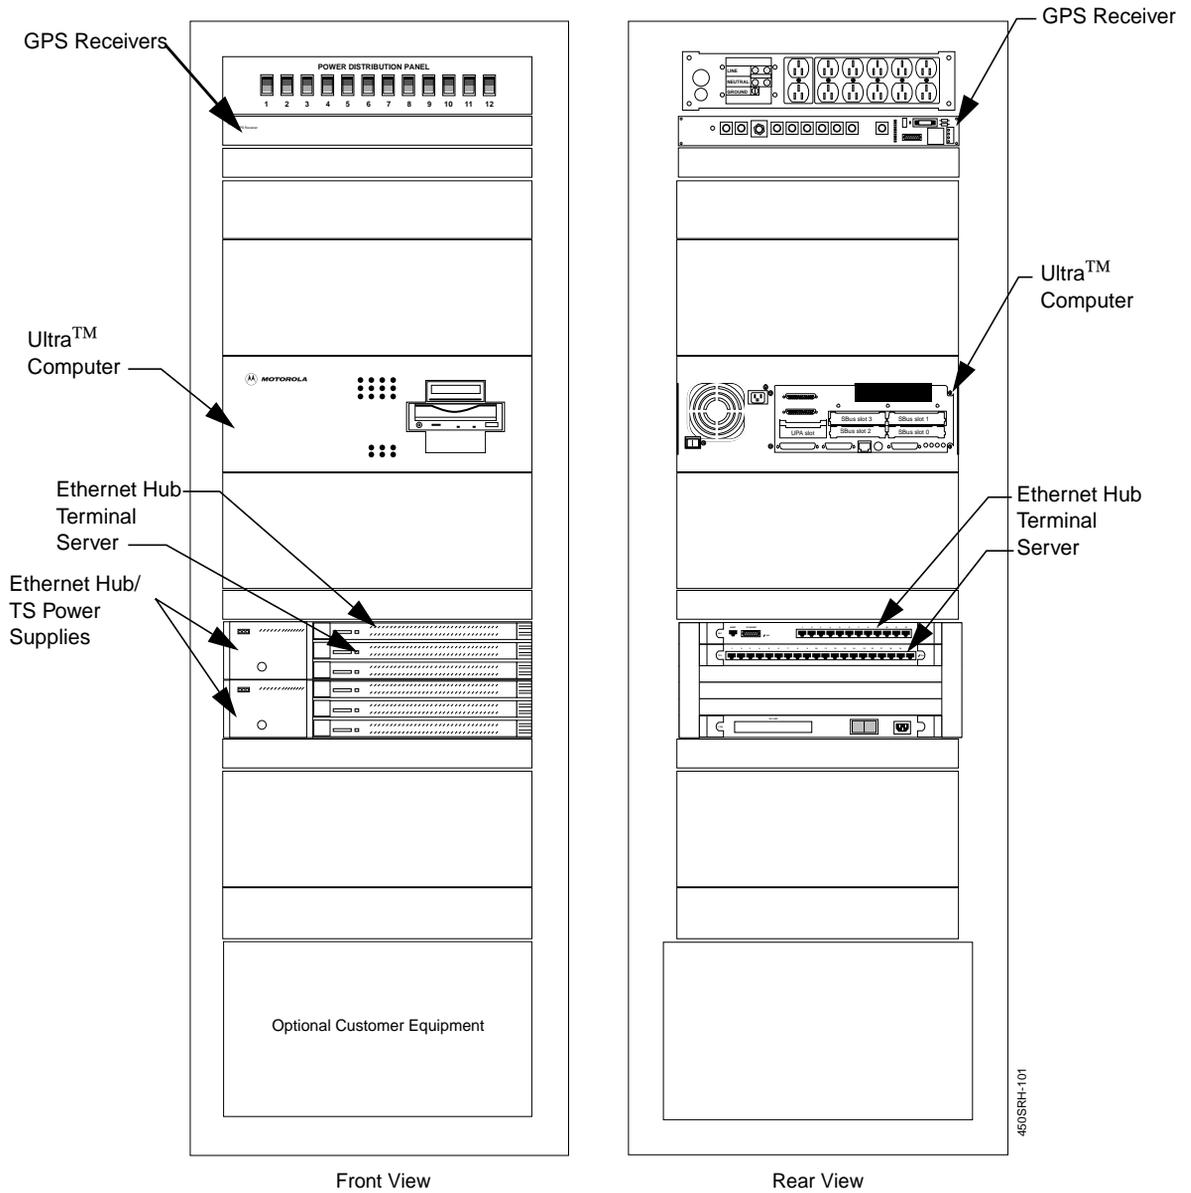
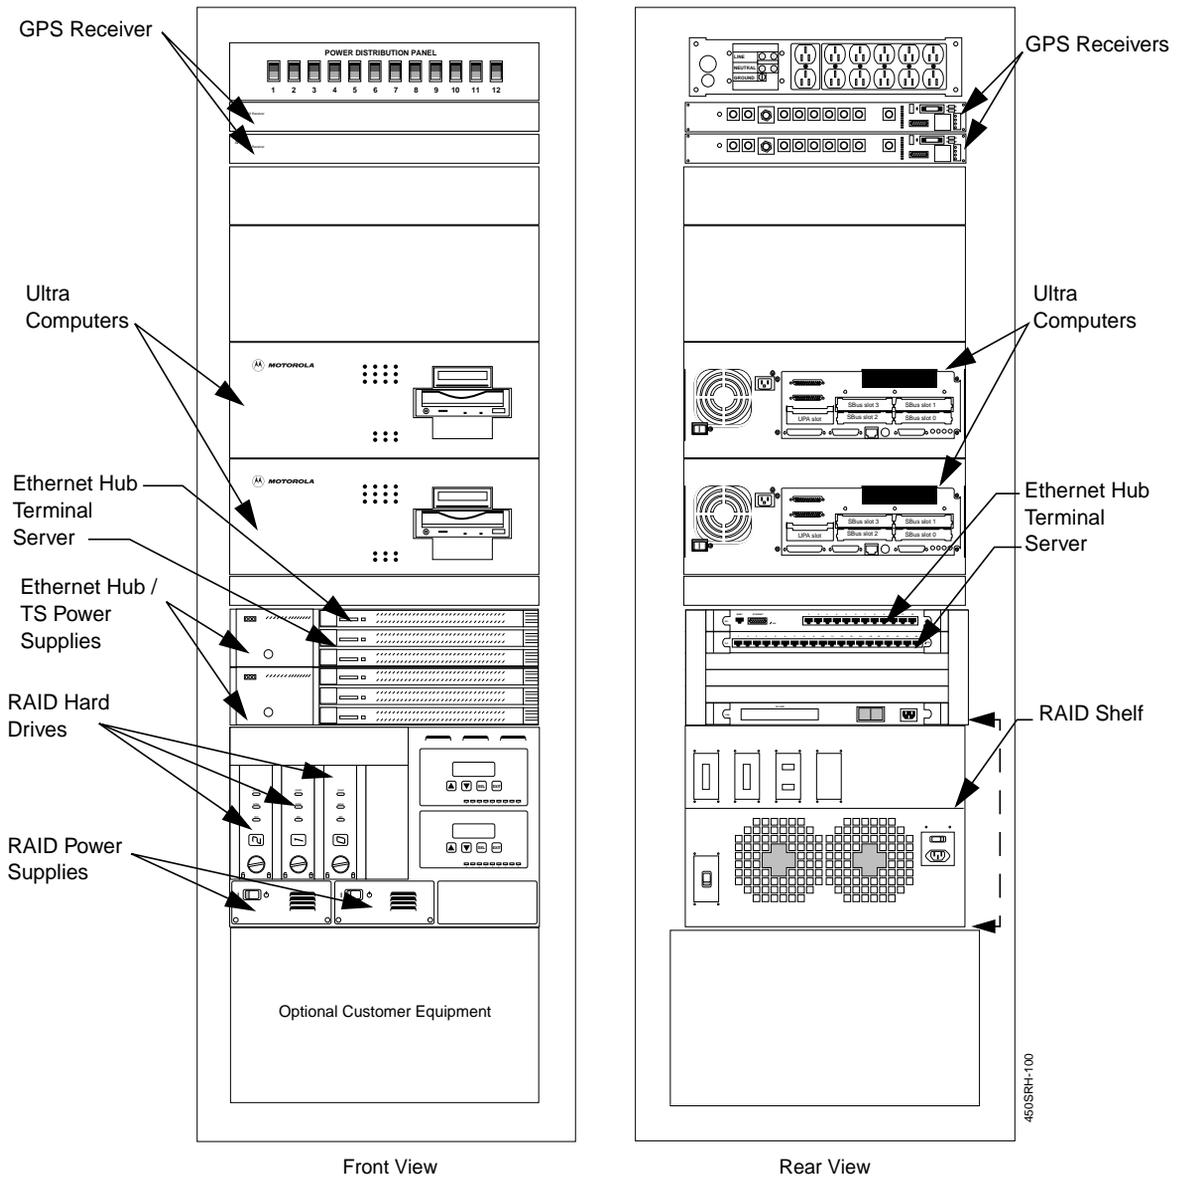

Figure 2-1: Nonredundant AC-Powered RF-C! Controller
Figure 2-2: Redundant AC-Powered RF-C! Controller with RAID
- Figure 2-1: Nonredundant AC-Powered RF-C! Controller, 2-3
- Figure 2-2: Redundant AC-Powered RF-C! Controller with RAID, 2-4
The RF-C! controller front and back views of nonredundant and redundant (with redundant array of independent disk (RAID) drives) are provided (see Figure 2-1 and Figure 2-2). Individual major components are identified in the model (see paragraph, "System Architecture").